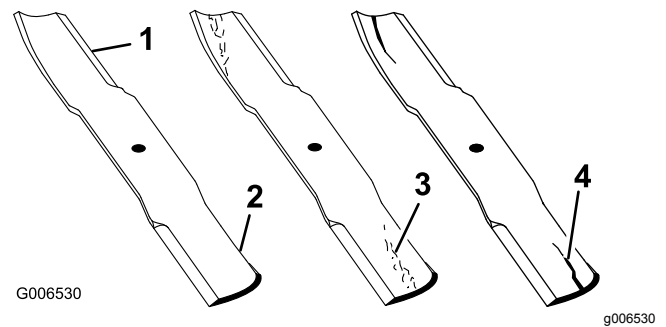

Figure 54
1. Inspect the cutting edges (Figure 54).
2. Inspect the blades, especially the curved area (Figure 54).
Note: If you notice any damage, wear, or a slot forming in this area (items 3 and 4 in Figure 54), immediately install a new blade.